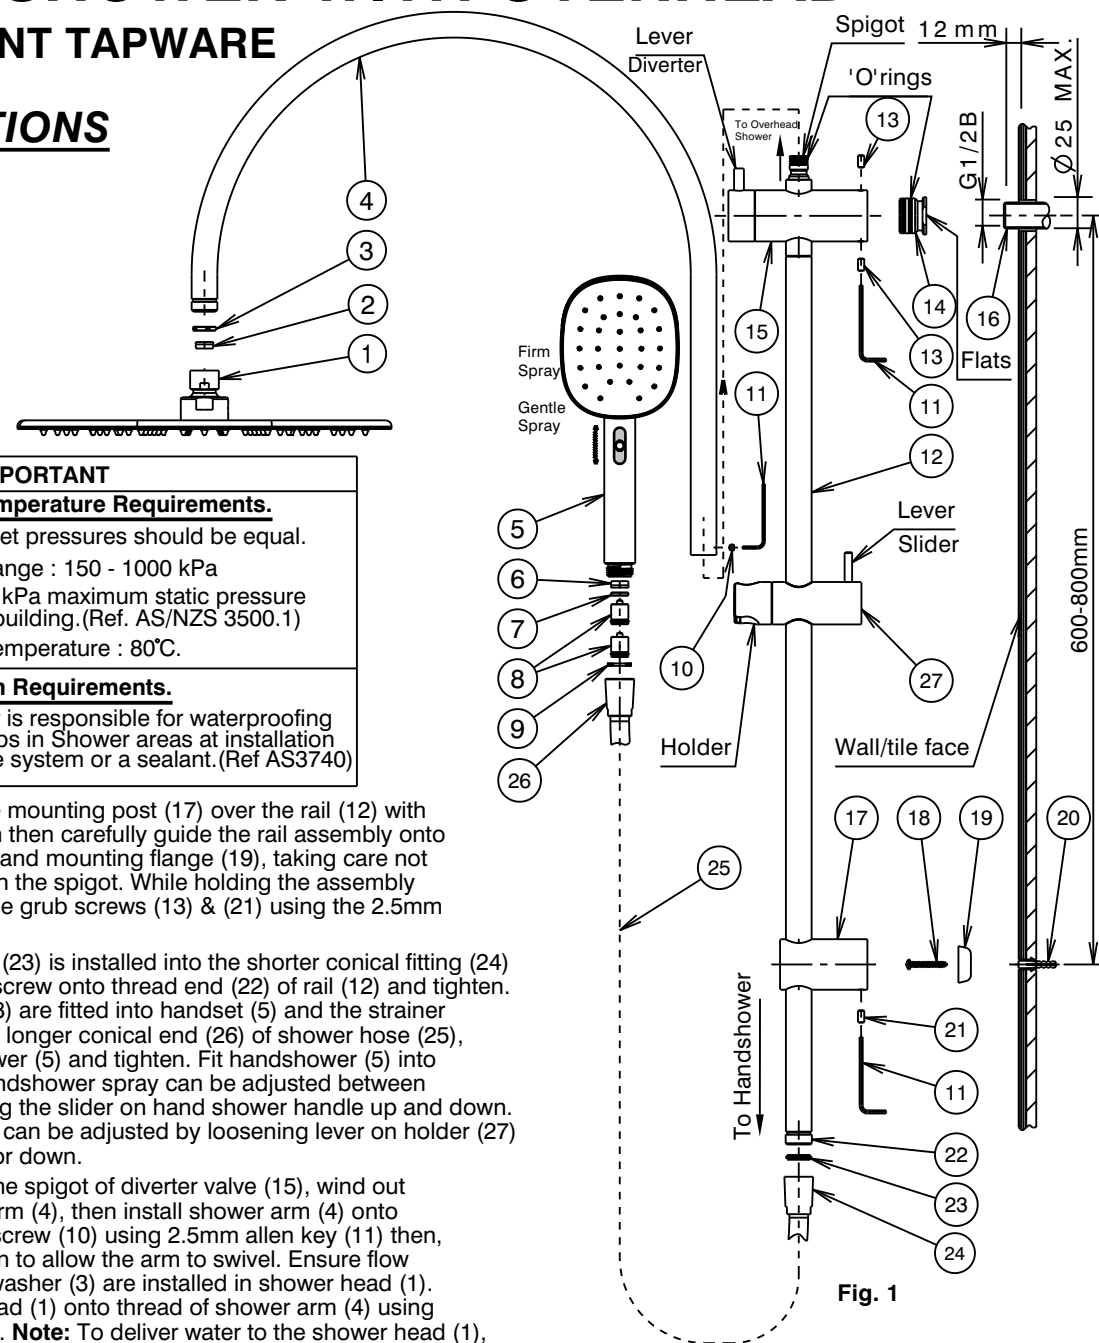

Fig. 1
- 2) Screw adaptor (14) onto threaded nipple (16) until adaptor (14) is held securely against wall/tile face. **DO NOT OVERTIGHTEN.** Apply suitable lubricant to 'O' Rings on adaptor (14).
- 3) Mark the position for the shower rail mounting post (17) at a suitable distance from the threaded nipple (16). (Fig 1.)
- ii) Insert tapered end of wall plug (20) into drilled hole and tap until flush with surface.